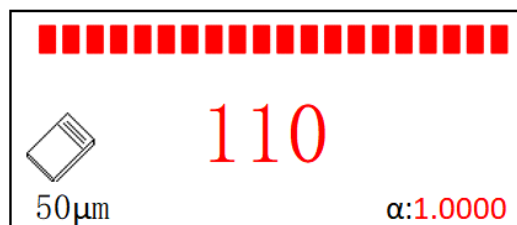

Figure 30: Incorrect Calibration Foil Thickness
- "110" (Figure 30): Calibration foil thickness does not match the setting; please check or replace the foil.